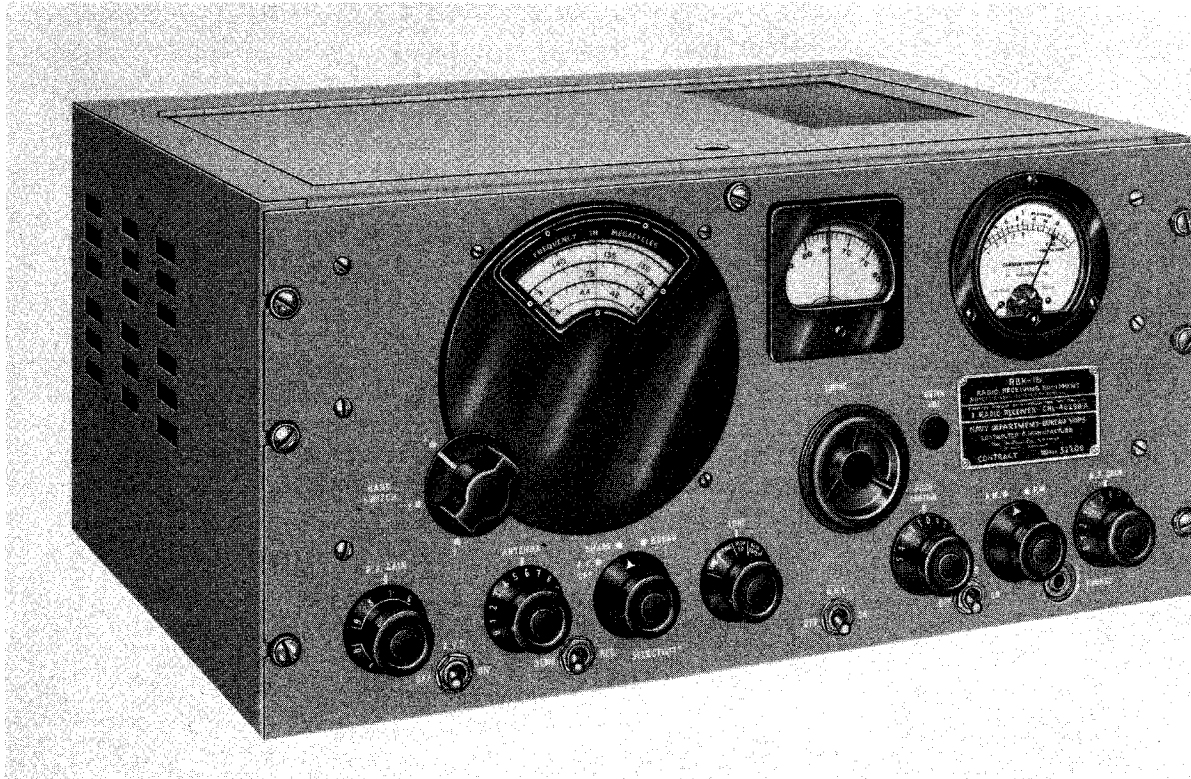

Figure 1-1. Radio Receiving Equipment Navy Model RBK-16, Identification of Front Panel Controls.
a. The Radio Receiving Equipment Navy Model RBK-16, figure 1-1, described in this manual is intended primarily for use on ships and other stations of the U.S. Navy as a high frequency receiver.